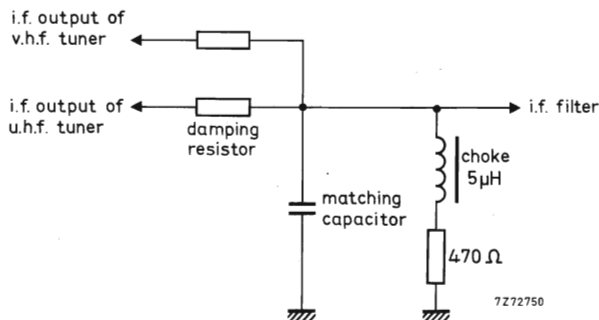

Fig. 9.
The tuner needs a d.c. path from the i.f. output terminal (10) to earth, preferably via a choke of approx. $5\ \mu\text{H}$ outside the tuner (Fig. 9). Where the tuner is used in combination with a v.h.f. tuner, this choke can be common for both tuners; a resistor in series with the choke can inhibit the i.f. output circuit of the switched-off tuner. For damping the i.f. output circuit and matching the i.f. output impedance of the tuner to the receiver i.f. amplifier, a series resistor and a parallel capacitor as shown in Fig. 9 should be used.